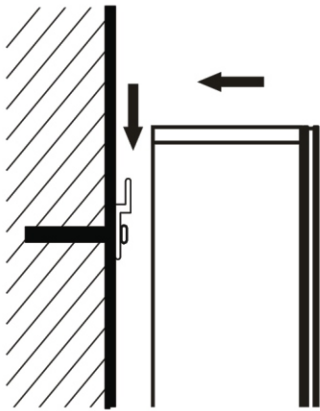
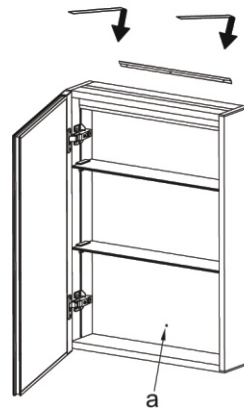
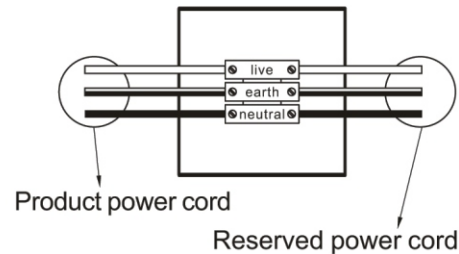

Fig. 3
Fig. 4
Fig. 6
- 2.1 Attach the mirror cabinet to the bar as shown in Fig. 3, open the cabinet door, and mark on the wall with a pencil (Fig. 4) through the backplane hole (a).
- 2.3 Repeat the operation as shown in Fig. 3 and mount the mirror cabinet to the bar, make sure that the circuit on the wall is not energized and connect the three-core wire reserved on the wall to the three-core wire terminal block on the product (Fig. 6), and then tighten the screws on the backplane.